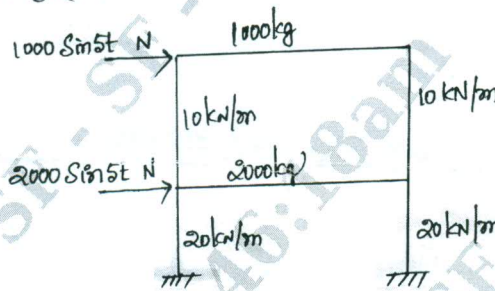

Fig Q7
- 7 Determine natural frequencies and steady state response of the multi degree freedom system frame at $t = 0.1 \text{ sec}$ for the Fig Q7.